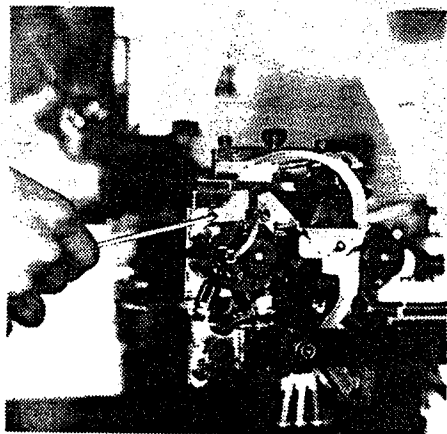

Fig. 7
4. ADJUSTING OVERLAPPING AMOUNT OF ELASTIC (Fig.7) (BUTTING ↔ OVERLAPPING)